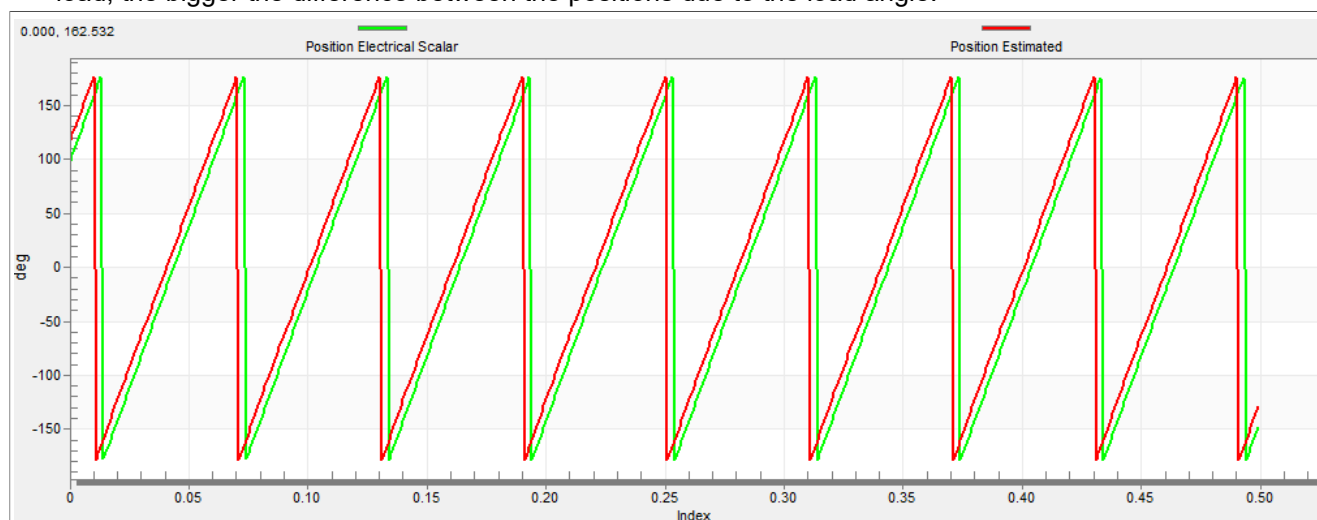

Figure 30. Generated and estimated positions
6. Select the "Position" recorder to check the observer functionality. The difference between the "Position Electrical Scalar" and the "Position Estimated" should be minimal (see Figure 30) for the Back-EMF position and speed observer to work properly. The position difference depends on the motor load. The higher the load, the bigger the difference between the positions due to the load angle.